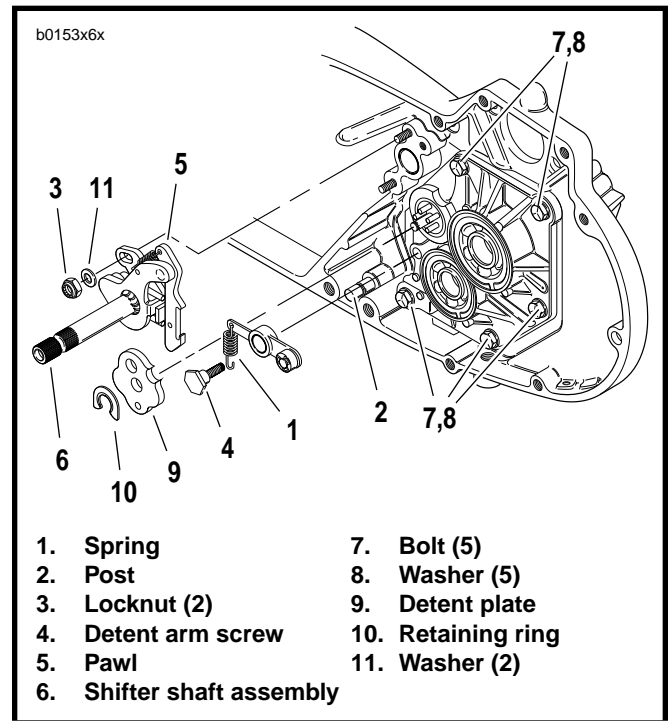

Figure 6-15. Shifter Shaft Assembly
12. See Figure 6-15. Detach spring (1) from groove in post (2).
13. Remove retaining ring (10) and detent plate (9). You will need to use a **new** retaining ring for installation.
14. Remove two locknuts (3) and washers (11) which attach shifter shaft assembly (6) to studs at transmission case. Remove shifter shaft assembly.
15. Remove five access door bolts (7) and washers (8). Remove transmission assembly by pulling it straight outward, away from transmission case.